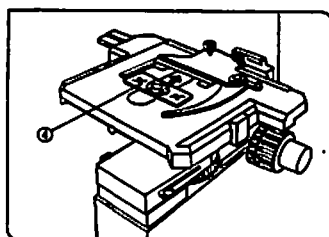

Fig. 38
(Figs. 38, 39, 40)
Place a lump of clay (Plasticine) on a metal slide ④, place the specimen on the clay, and gently press the specimen with a hand press to stick the specimen to the metal slide. (Fig. 38)